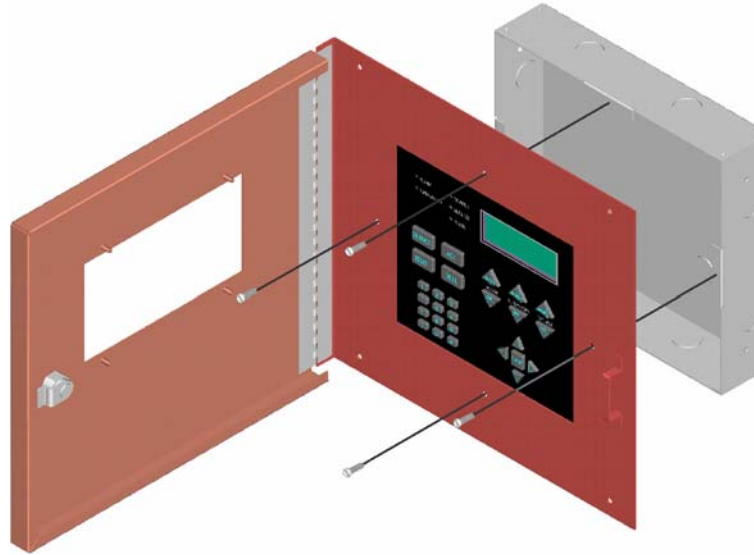

Figure 4.16 Attaching Annunciator/Door Assembly to Backbox
- Attach the annunciator and door assembly to back box as shown in Figure 4.16 using the supplied screws.
4. Attach the annunciator and door assembly to back box as shown in Figure 4.16 using the supplied screws.